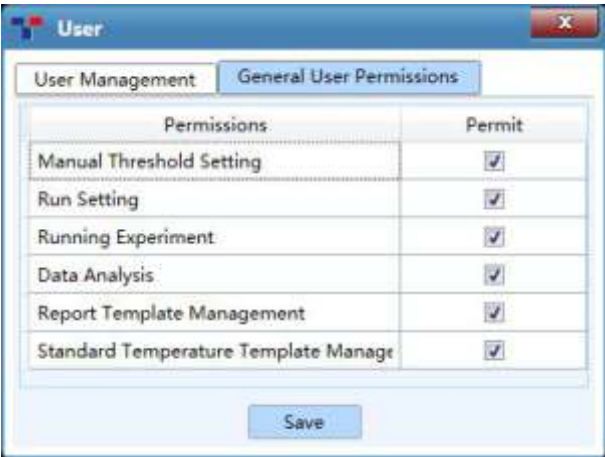

Figure D-3.7b User interface - General User Permissions tab
- ▶ **General User Permissions** tab: as shown in figure D-3.7b.